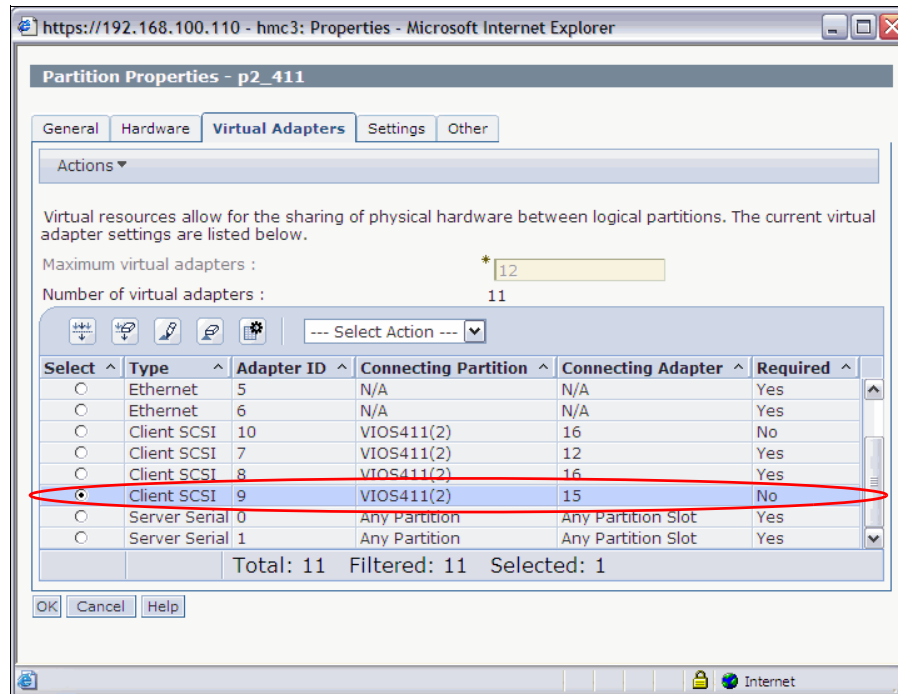

Figure 4-2 Client logical partition virtual adapter mapping in WebSM
8. Map the vhost adapter from the previous step to a SCSI adapter on the client logical partition if the mapping does not already exist. Something similar to the highlighted line in Figure 4-2 is what you should see.